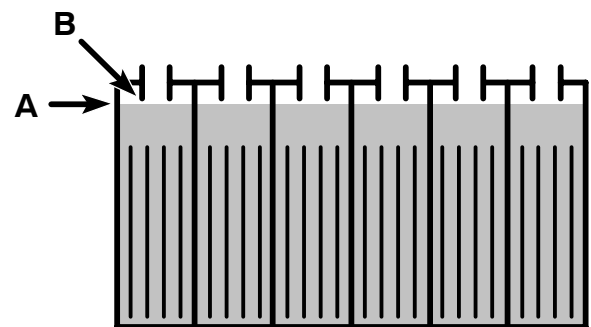

FIG. 43
3. Check the electrolyte level (A) in each battery cell **after charging batteries**. The level should be approximately 1 cm (3/8”) from the bottom of the fill-port (B). Add distilled water if needed (Figure 43). DO NOT OVERFILL.